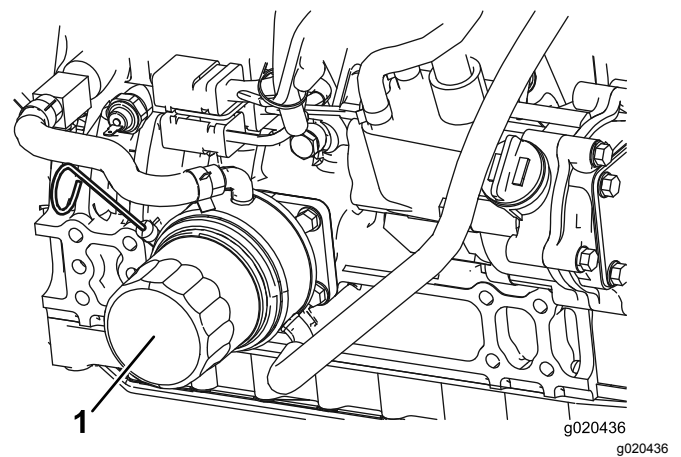

Figure 76
2. Remove the oil filter (Figure 76). Apply a light coat of clean oil to the new filter seal before screwing it on. **Do not overtighten.**